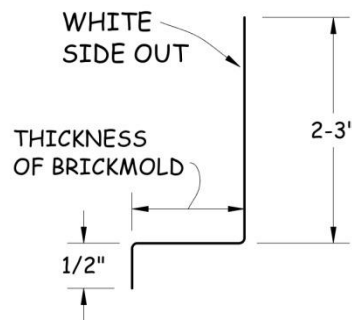

Figure 9-3. Shed Door Drip Cap.
2. Create (or use pre-made, if available) and install an aluminum drip cap over the top of the door casing. Cut the flashing 1" longer than the top brickmold. Install it with ½" extension beyond each end of the brickmold. See Figure 9-3.